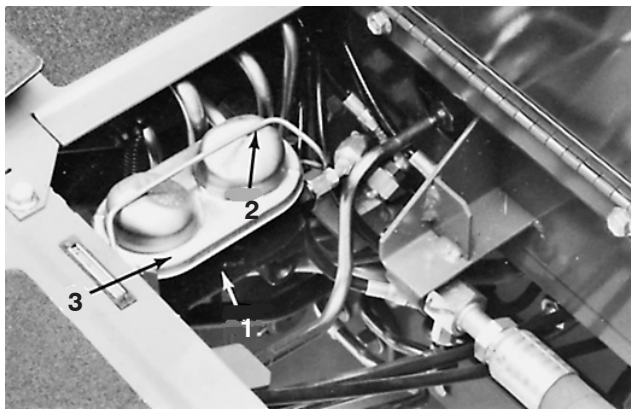

Figure 58
2. Snap cover bail off cover and remove cover from master cylinder (Fig. 58).